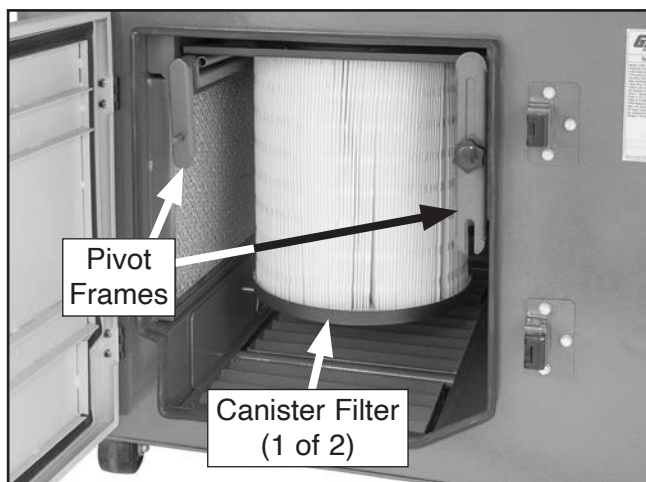

Figure 47. Pivot frames rotated down to release canister filters.
5. Rotate pivot frames down, then slide canister filters out of machine (see **Figure 47**).